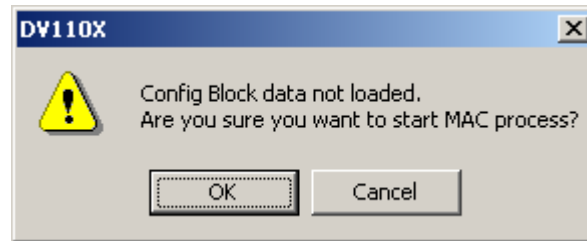

Figure 6: Warning Dialog Box
17. Press the “Start MAC Process” button. This will cause the warning dialog box to display, as shown in Figure 6. Press the OK button.